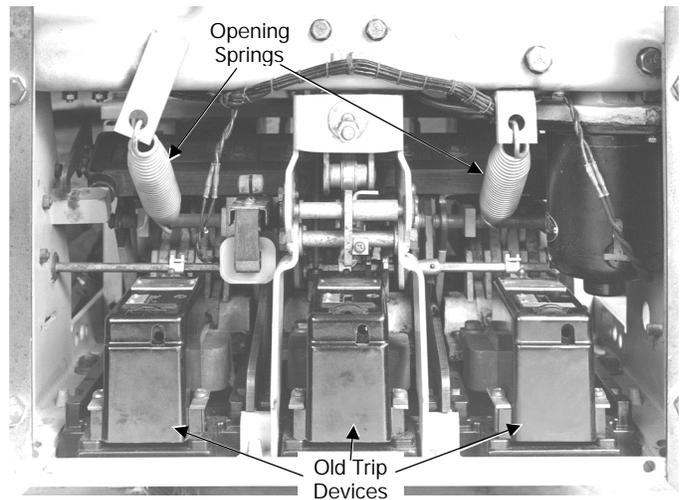

Figure 1. Opening springs and old trip devices on an AK-1-50 circuit breaker (view from bottom of breaker).
1. Remove the breaker opening springs, shown in Figure 1. Save them for reinstallation.